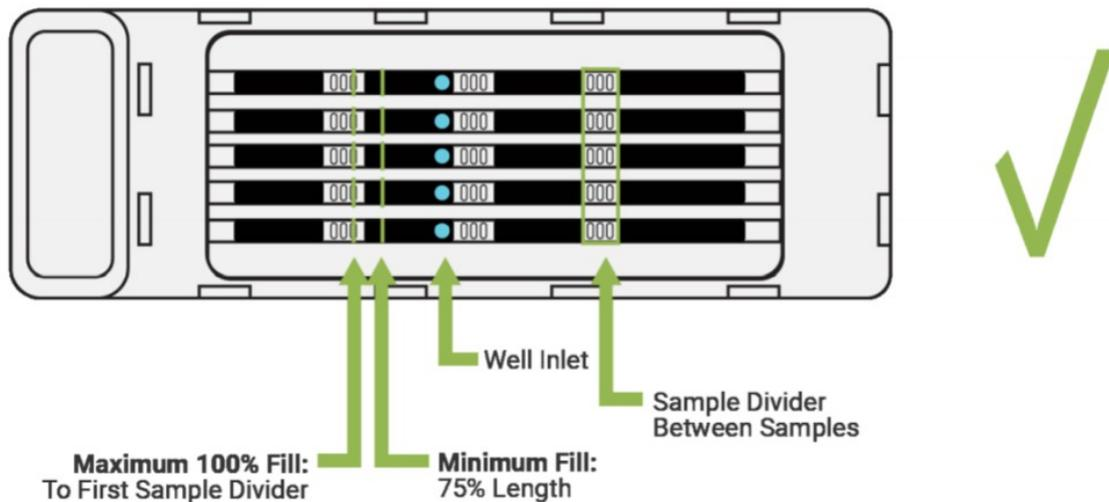

Figure 2. Properly Filled CodePlex Chip
10. After loading wells 1 through 5, invert the CodePlex chip and inspect sample fill length through the glass slide on the bottom of the chip. If any samples are filled less than 75% of the length between the well inlet and first sample divider of the next row (Figure 2), lightly tap chip parallel to benchtop (slide side down) to promote sufficient sample filling. Inspect sample fill in between tapping and stop once each sample has loaded at least 75% of the well length. Alternatively, chip may be lightly tapped perpendicular to benchtop (barcode side down) to promote filling.
13. After loading all samples and background controls in duplicate, gently invert chip to inspect sample loading through glass slide. As shown in Figure 2, liquid should cover at least 75% of the length of the sample chamber.